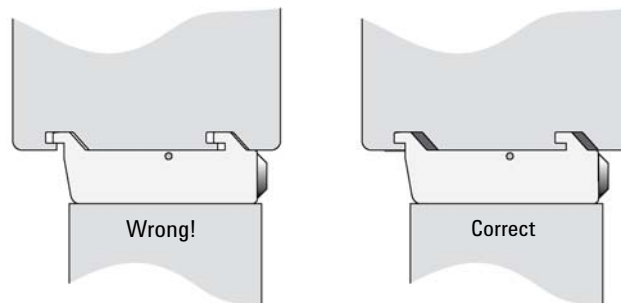

Figure 8 Attachment of Mounting Claws
- 4 Double check whether the leg claws are correctly attached to the X-axis (see Figure 8 on page 55).